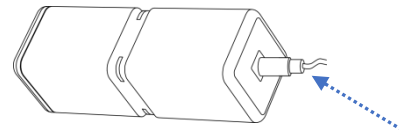

Figure 10B
- ii. Insert the 3.5mm jack of Socket for Remote Water Detection Probe tightly. “Figure 10B”